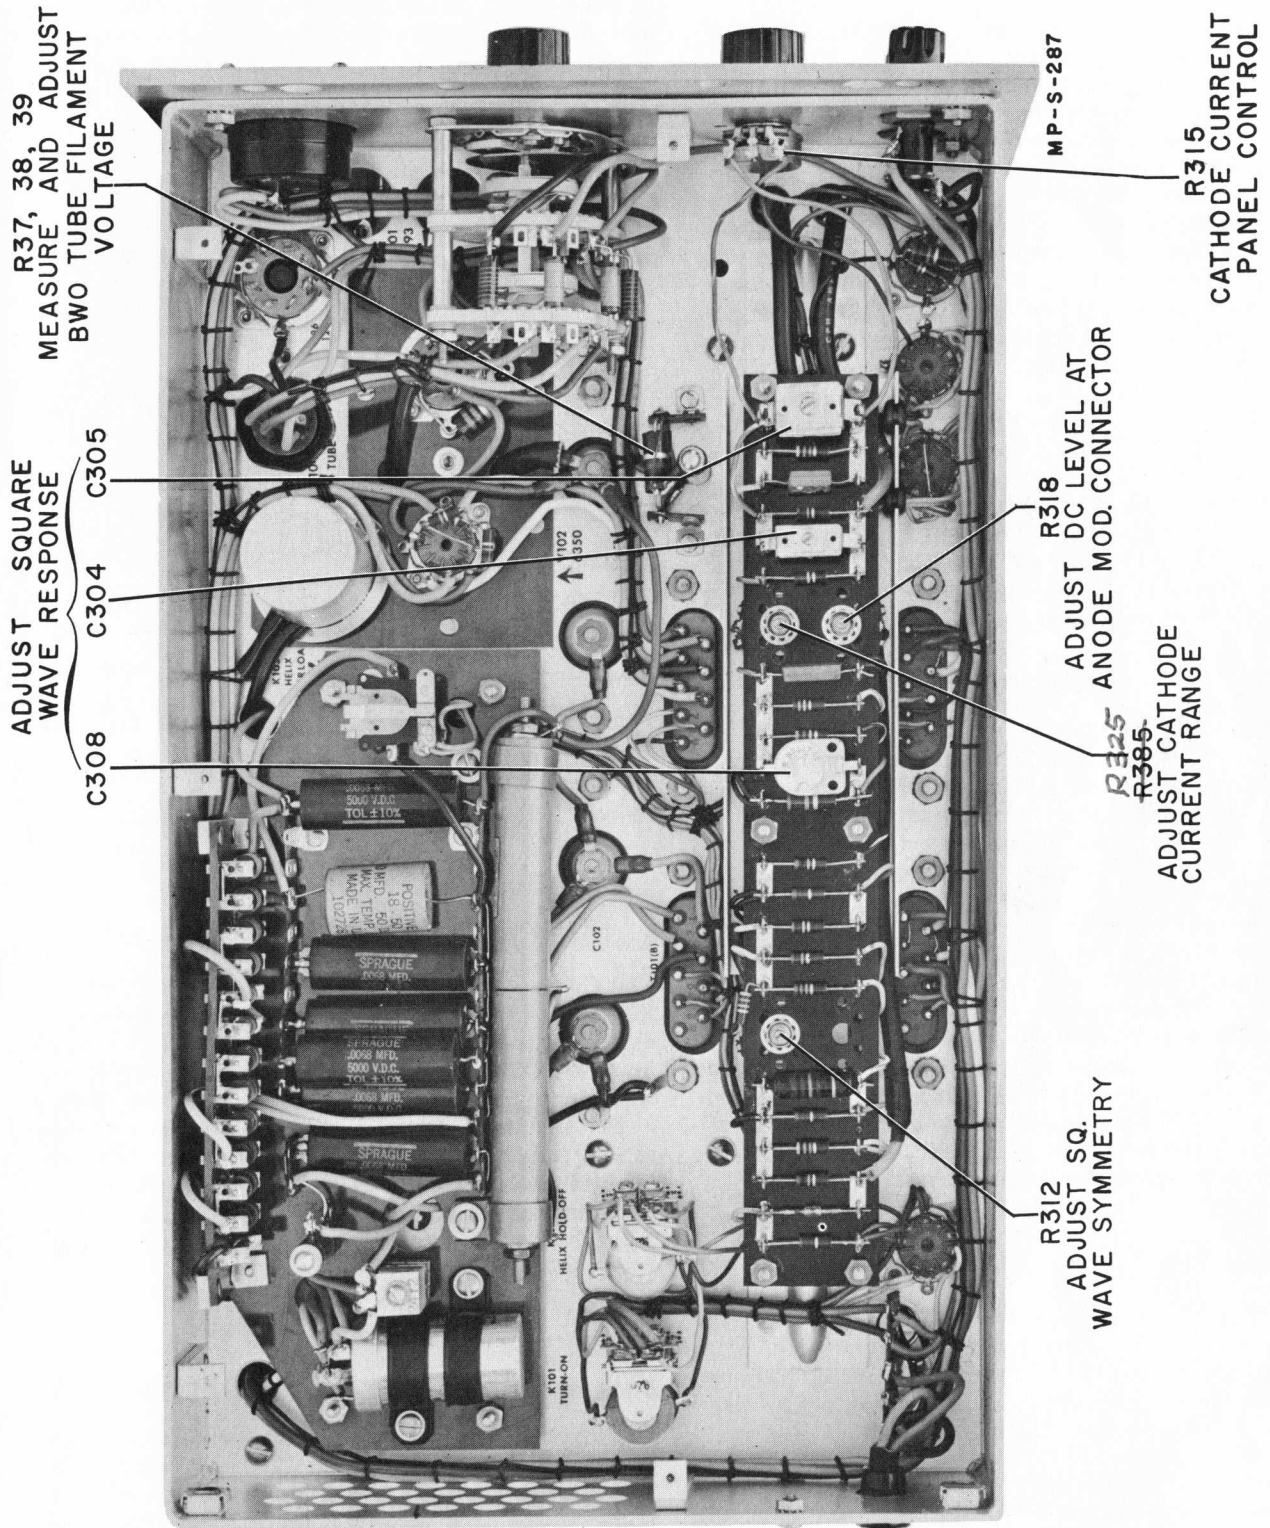

Figure 4-14. Model 686A Left Side View
11) Turn on power to the sweep oscillator and adjust the line voltage to 127 volts. Carefully watch the bwo filament voltage for 2 minutes. If the voltage exceeds the rated voltage by more than 0.2 volts, immediately turn the instrument off and readjust the value of the padding resistors (Figure 4-14).